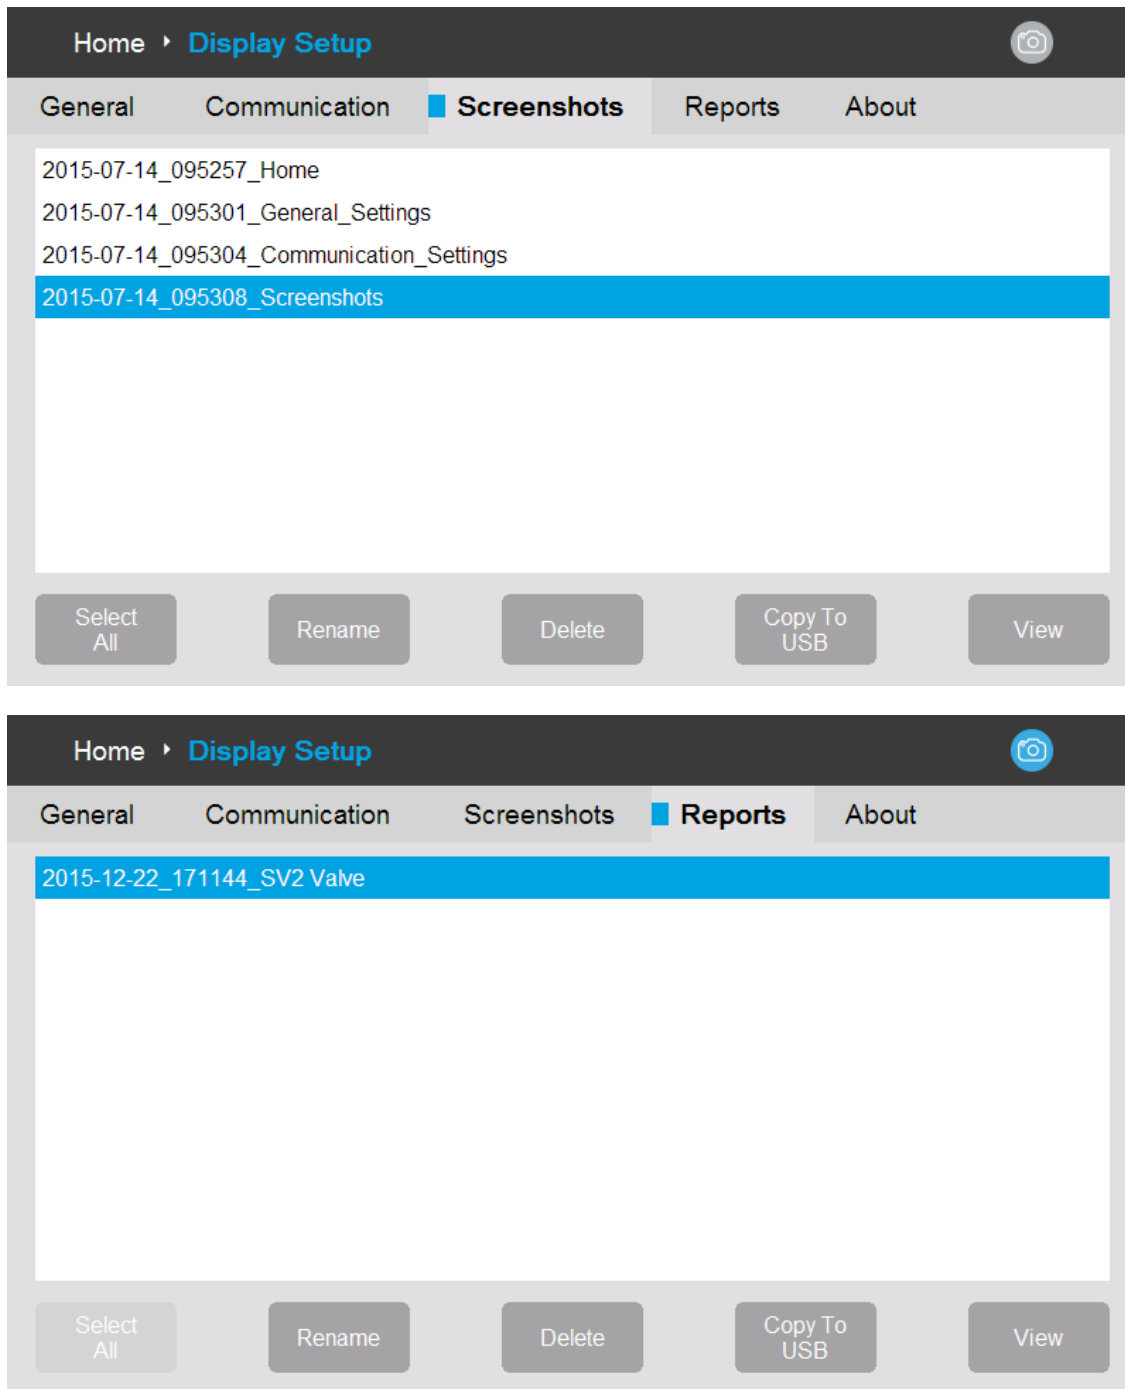

Fig. 31. Display Setup – Screenshots and Reports.
**Screenshots** (HMI only) Provides for screenshot maintenance including rename, delete, copy and view. Refer to Fig. 31.
**Reports** (HMI only) Provides for reports maintenance including rename, delete, copy and view. Refer to Fig. 31.